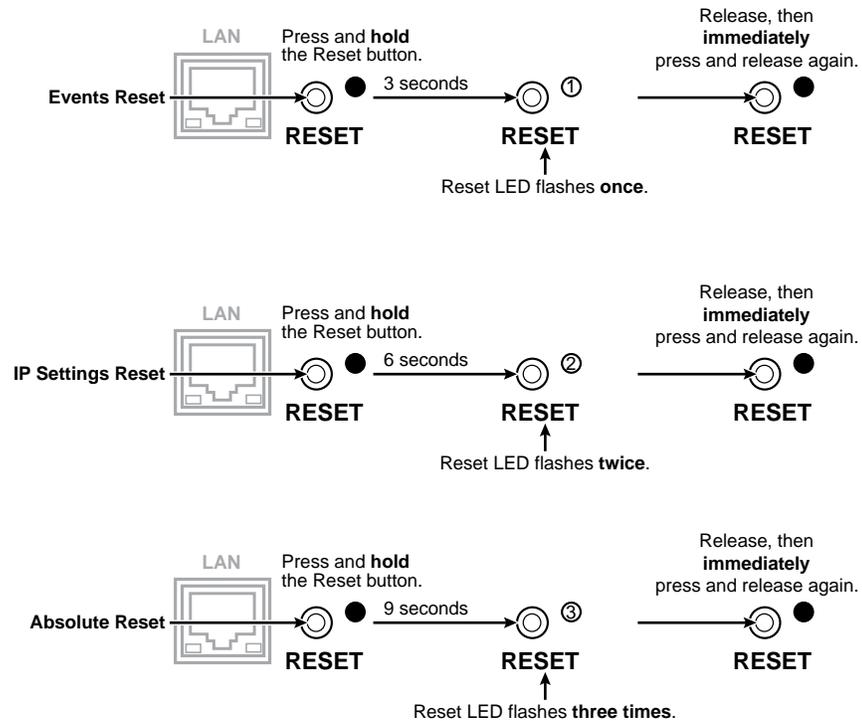

Figure 3-33 — Whole switcher and absolute resets
1. Use an Extron tweaker or other small screwdriver to press and hold the Reset button until the Reset LED blinks once (for events reset), twice (for IP settings), or three times (for absolute reset) (figure 3-33).